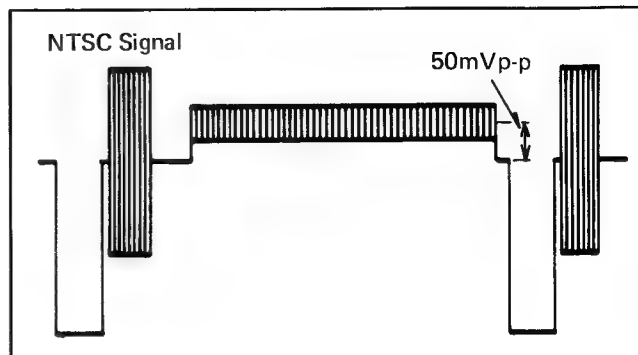

Fig. 14
- Check the NTSC pedestal as shown in Fig. 14.